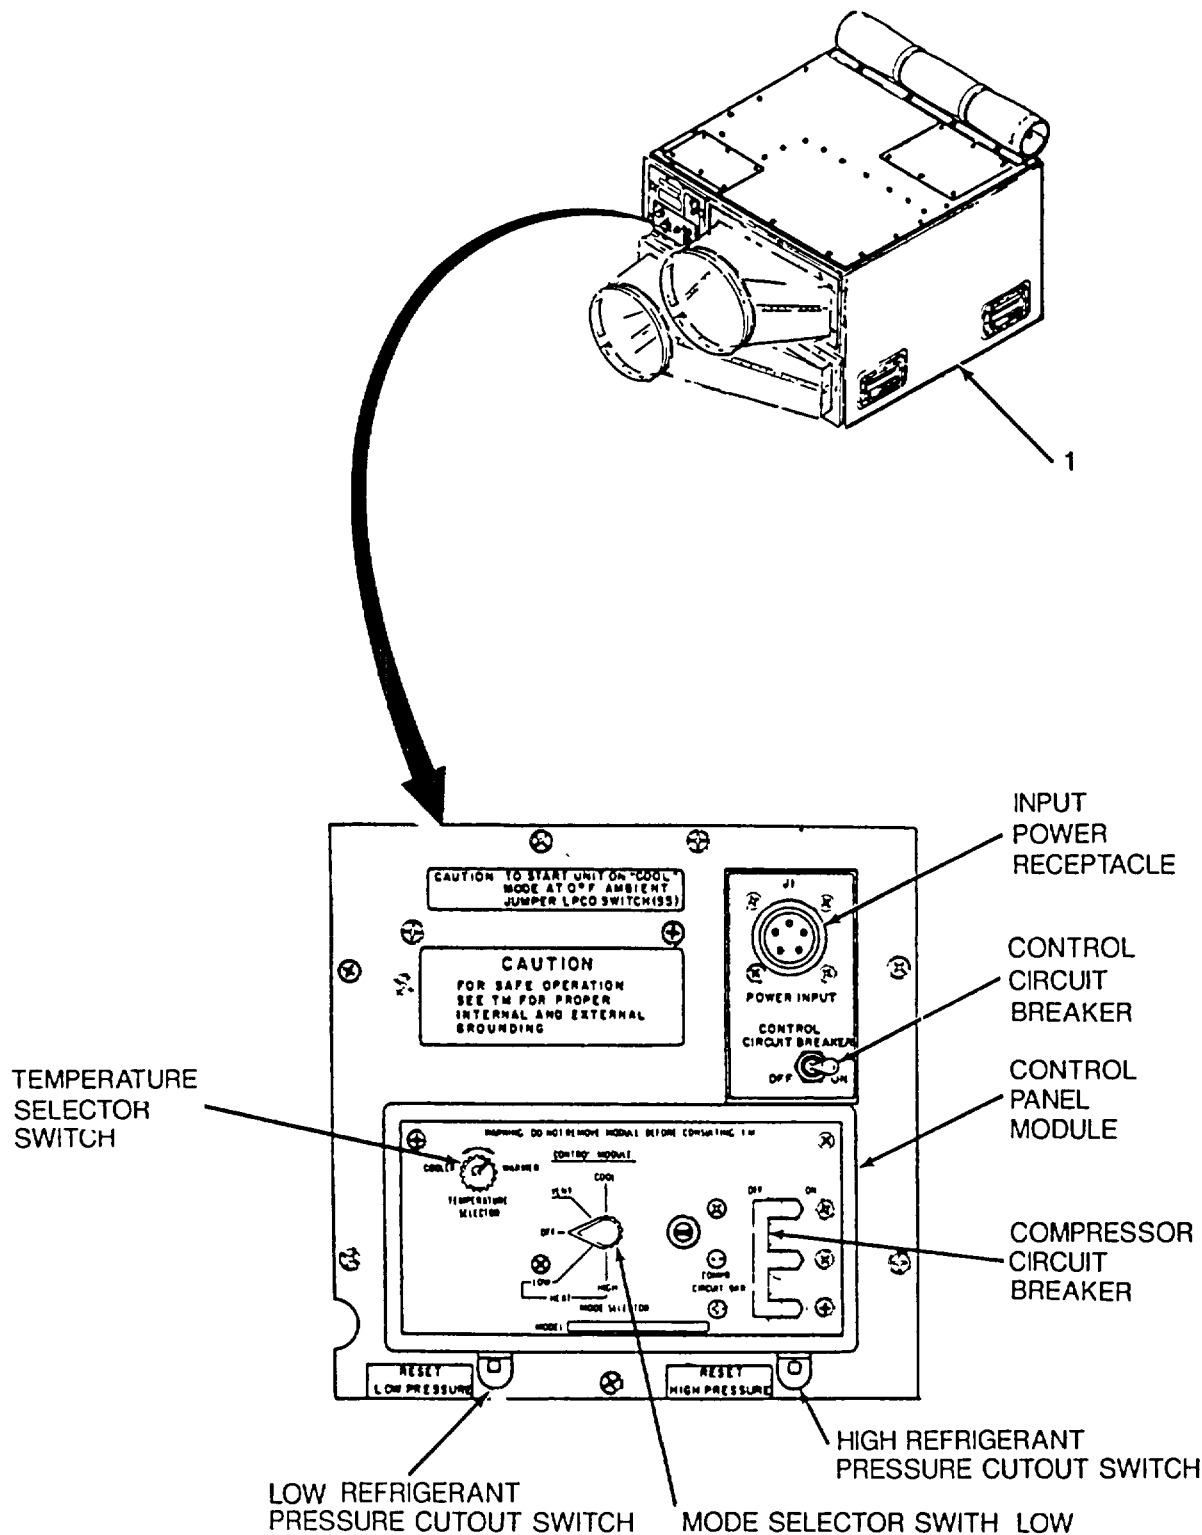

Figure 2-1. Operator and Indicators ( Sheet 2 of 2).
**2-3. INDICATORS.** (Refer to figure 2-1.)